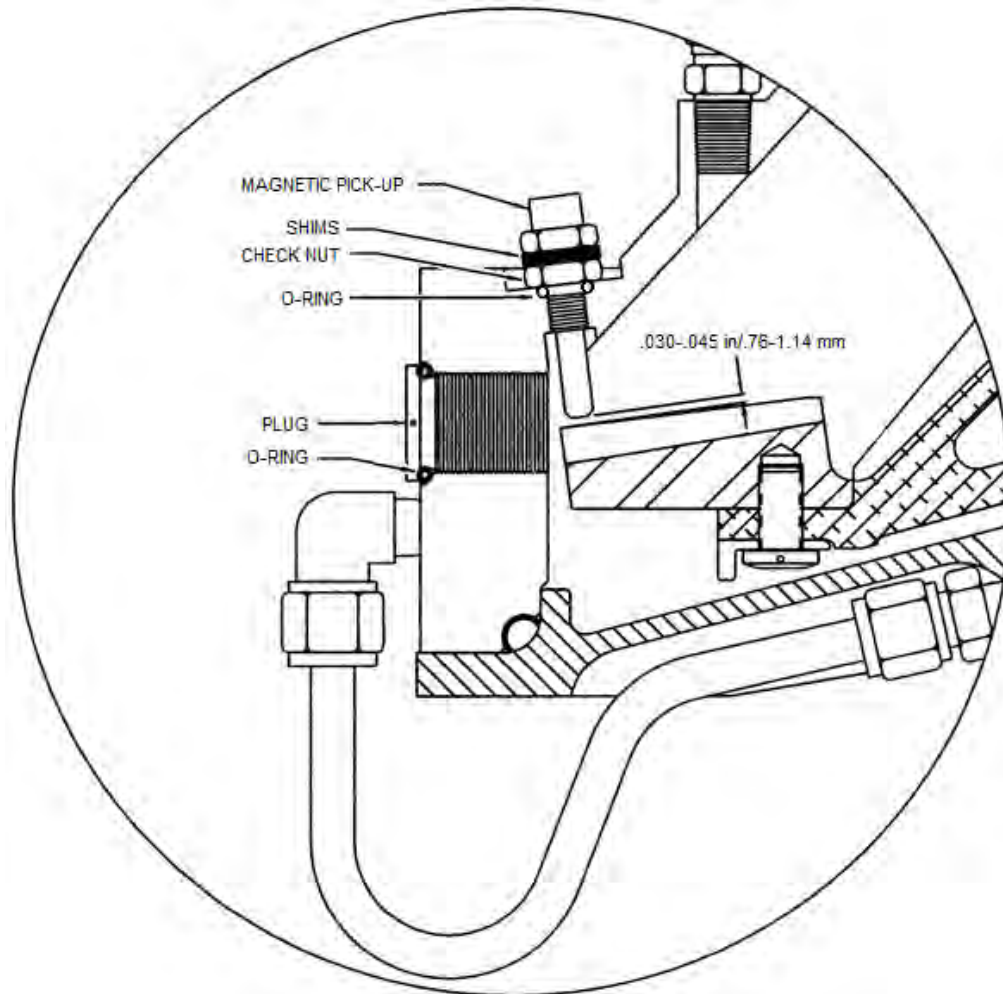

Figure 24-2. Magnetic Pick-up Installation
- A. Removal – Rotor RPM Magnetic Pick-up (Figure 24-2)
- (1) Remove the left side fuel tank (para. 13-10).
- (2) Place ground handling wheels in the down position.
- (3) Place 2 blocks (approximately 1.5 inches/3.8 mm) under the forward strut attachment points under the skid tube.
- (4) Place the wheels in the up position. This will allow the oil in the gearbox to run aft and not leak out when the access plug is removed.
- (5) Disconnect the magnetic pick-up electrical connector.
- (6) Remove the magnetic pick-up from the main rotor transmission. If replacing the magnetic pick-up, remove any shims installed on the pick-up.
- (1) Repair damaged wiring or electrical connectors.
- (2) Replace the magnetic pick-up if the ohm check is outside the 270-330 ohm range or if inspection of the system components and wiring isolates the problem to the magnetic pick-up.
- D. Installation – Rotor RPM Magnetic Pick-up (Figure 24-2)
- (1) Remove the magnetic pick-up inspection plug on the forward, lower section of the main rotor gearbox.
- (2) Turn the gearbox until a gear tooth is directly under the center of the magnetic pick-up installation hole.
- (3) Install the magnetic pick-up into the main rotor transmission.
- (4) Install the inspection plug.